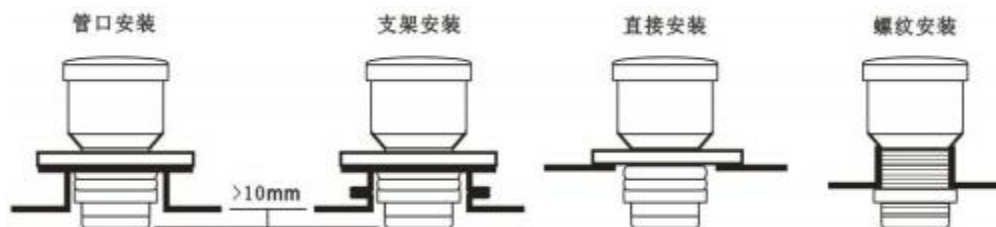

Figure 3
7.1.3 The probe may be installed using either a flange or standard M60×2 threads (the installation interface shall conform to the actual specifications). Regardless of whether flange or threaded installation is employed, and irrespective of whether a taper sleeve is selected, the bottom of the probe must protrude beyond the bottom of the installation interface. Figure 3 illustrates the correct installation method.